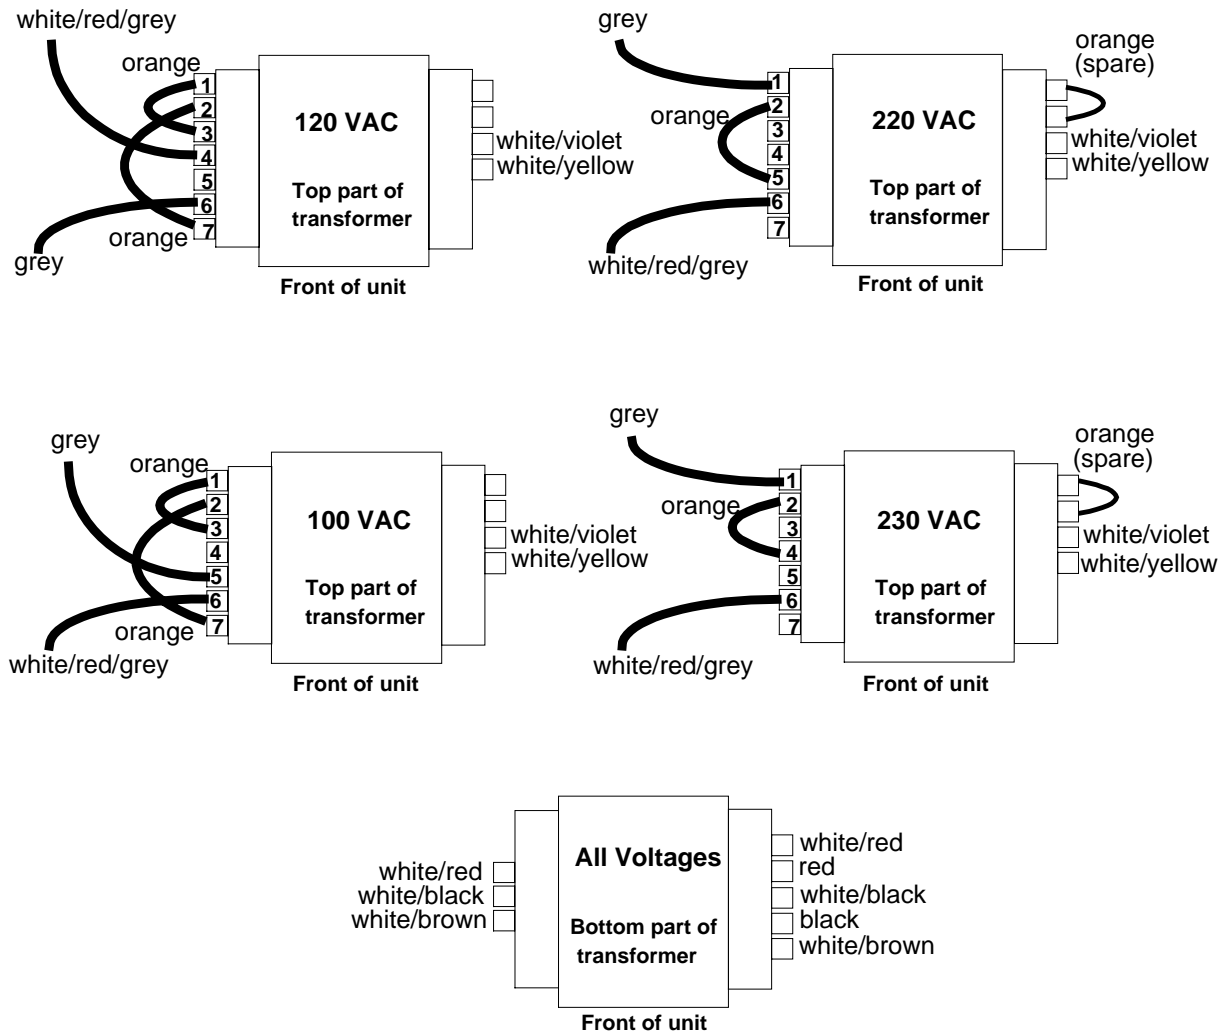

Figure 3-3. Transformer Wiring
**NOTE:** The AC power connections at the transformer primary are line voltage dependent. Refer to Figure 3-3 subsequent reconnection.
Figure 3-3 illustrates the primary wiring configuration of the power transformer for various ac line voltages. Use long nose pliers to disconnect the wires going to the transformer terminals.
As shown in Figures 6-2 and 6-4, the power circuits consist of: input power rectifiers and filter, primary and secondary bias circuits, an output regulator, a downprogrammer circuit, current-monitoring resistors, an overvoltage SCR, and an output filter. All bias circuits are located on the A1 PC board. Bias voltage test points are shown in Figure 6-1 and transformer wiring diagrams are shown in Figure 3-3.